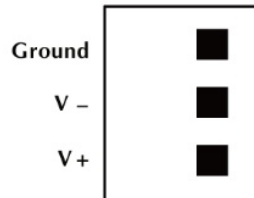

Figure 2-9: Terminal Block Connector
Step 1: Insert positive DC power wire into **V+**, negative DC power wire into **V-**, and grounding wire into **Ground** as shown in Figure 2-9.